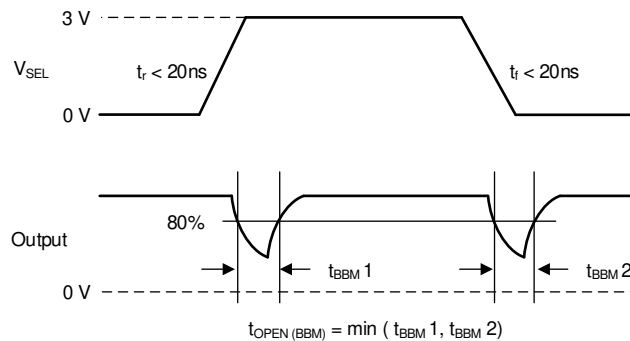

Figure 4-11. Break-Before-Make Time (t_{BBM})
- **Break-Before-Make Time (t_{BBM}):** Ensures that in a multiplexer, two multiplexer paths are never electrically connected when the signal path is changed by the select input. Break before make delay is a safety feature that prevents two inputs from connecting when the device is switching. The output first breaks from the ON-state switch before making the connection with the next on-state switch. It guarantees that two multiplexer paths are never electrically connected when the signal path is changed by the select input. See Figure 4-11 for more details.